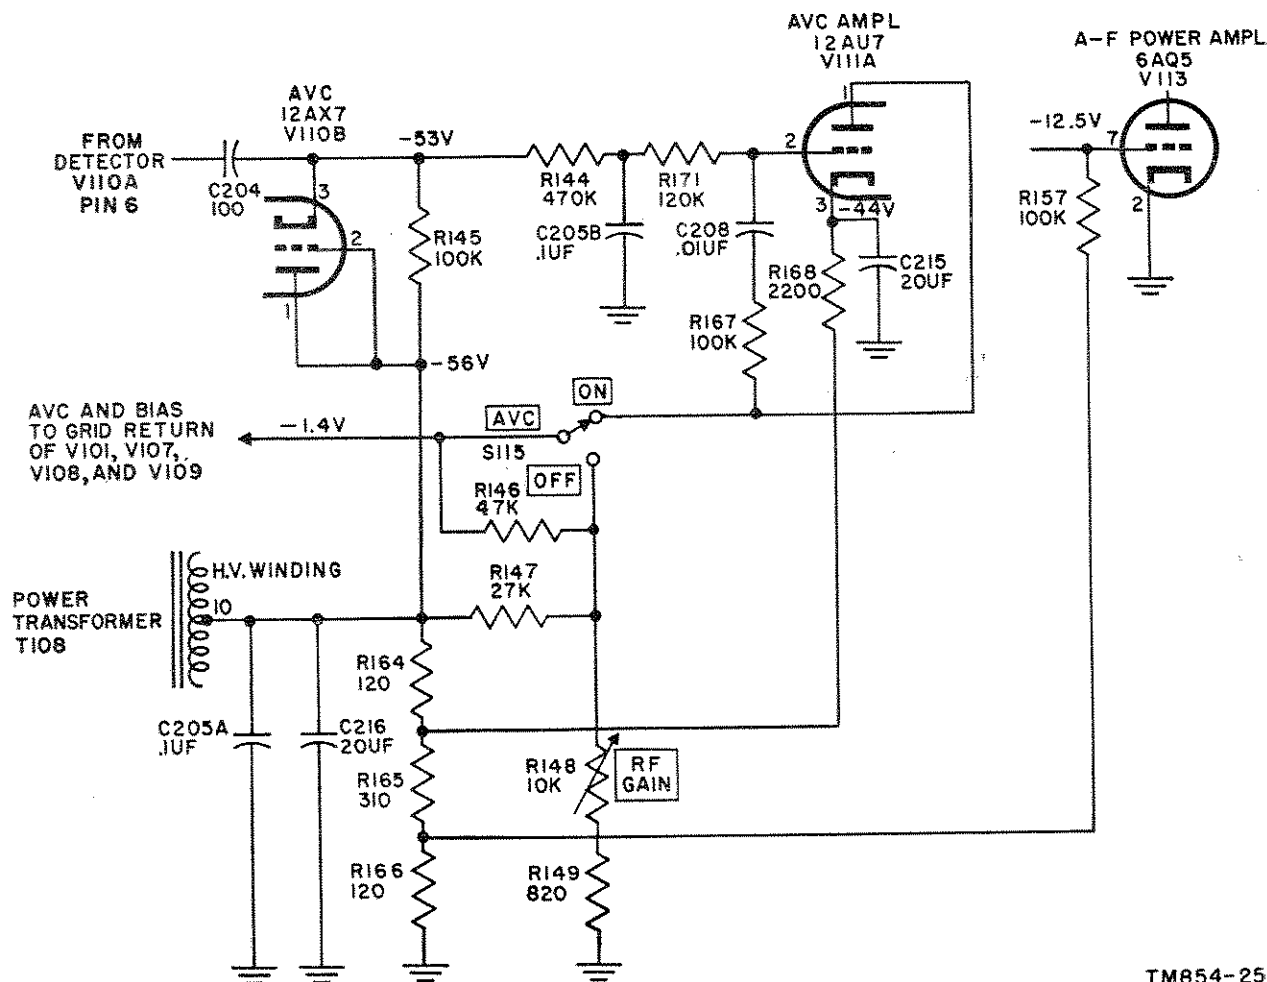

Figure 25. Avc and avc amplifier stages, schematic diagram.
to ground and return to cathode. Capacitor C202 is the i-f filter capacitor. That portion of the developed a-f voltage appearing across R151 is applied to limiter V112A and the following a-f stage. I-f signal voltage for the avc circuit is taken from the detector plate and applied through capacitor C204 to avc tube V110B cathode (fig. 25). The i-f output tube secures its i-f signal from coupling to the detector diode plate through C226.
a. Avc V110B. The i-f signal voltage is coupled to avc tube V110B through capacitor C204 and across resistor R145 (fig. 25). Avc tube V110B is a triode which is diode-connected. The application of i-f signal voltage between cathode and plate produces a rectified a-f current flow through R145. The a-f voltage is filtered before application to the avc amplifier tube by resistor R144 and C205B. The time constant of R144 and C205B is approximately .06 second. The avc voltage does not have instantaneous effect on input signals because the avc amplifier V111A has a d-c bias of approximately -9 volts on its grid, which makes this a delayed avc system.
c. A-F Power Amplifier V113. The a-f power amplifier V113 uses a tube type 6AQ5. The output of the a-f voltage amplifier, V112B, is applied across the grid resistor R157 of V113. The d-c grid bias is developed across resistor R166, a part of the power supply voltage divider consisting of resistors R164, R165, and R166 (fig. 25), and applied to V113 grid through resistor R157. Tube V113 output is developed across the primary of output transformer T107, induced in the tapped secondary winding, and applied from the appropriate portion of the secondary to either the PHONES or SPEAKER jack. Located at the rear of the receiver is a terminal strip labeled G, 4, and 600, to which external audio reproducing units can be connected. The SPEAKER and PHONES jacks are connected across the 600-ohm winding of the transformer. Screen voltage for V113 is obtained by connection to terminal 2 of filter choke L123 (fig. 42). Plate voltage for V113 is obtained by connecting the plate return side of the primary winding of T107 to terminal 2 of filter choke L122. Capacitor C212 connected between plate of V113 and terminal 2 of transformer E107 discriminates against the higher audio frequencies to equalize audio output.